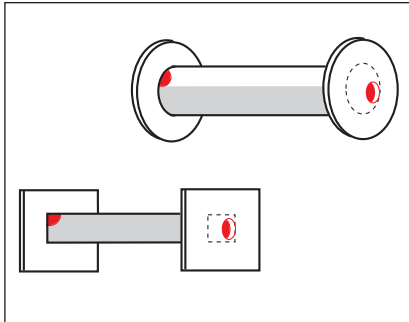

Figure 6.
- Where holes are provided in end plates or capping pieces, they should be placed diagonally opposite to one another, off centre and as near as possible to the wall of the member to which the end plate is connected (figure 6).